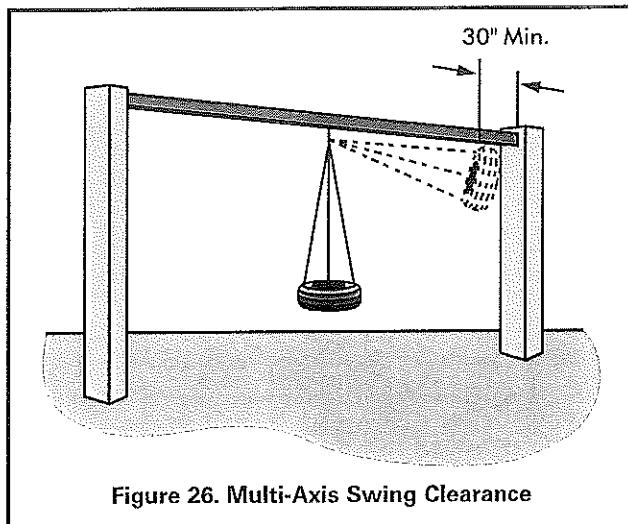

Figure 26. Multi-Axis Swing Clearance
- The minimum clearance between the seating surface of a tire swing and the uprights of the supporting structure should be 30 inches when the tire is in a position closest to the support structure (Figure 26).